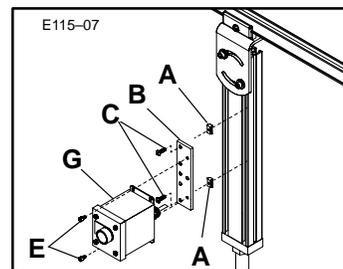

Figure 7: Jog Horizontal Mounting to Aluminum Stand Leg
- a. Refer to Figure 7 and disassemble and re-attach Pushbutton Box assembly to the Mounting Plate and Mounting Brackets in the manner shown.
- b. Then, attach assembly to the Single Drop-in T-bars, using the M6 x 16 mm Button Head Cap Screws (Figure 7). Tighten Screws with 4 mm Hex Key Wrench provided.